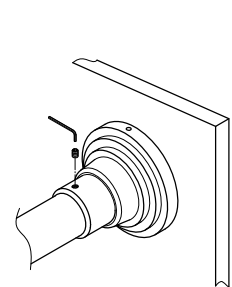

Fig. 7
- Step 6. Attach shower rod into the mounting unit and screw the shower rod in securely (Fig 7).